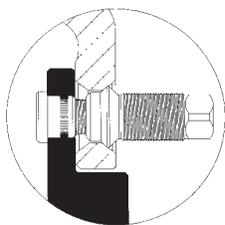

Figure 17
- ◆ Special inner cap nuts with a collar must be used with aluminum wheels. (See Figure 17 on page 47.)